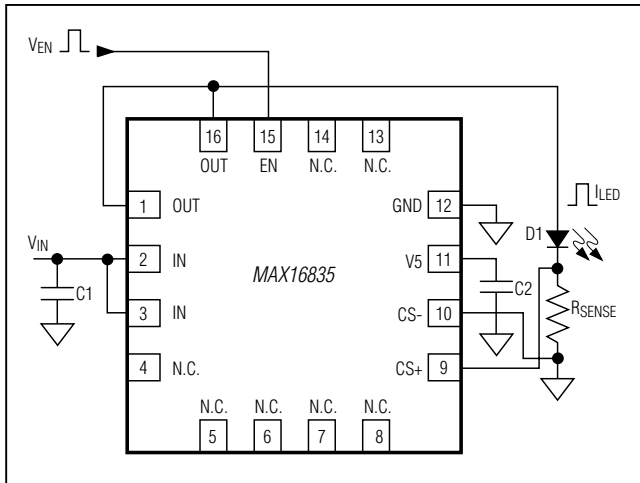

Figure 1. Pulse Application with V_{IN} at a Constant Voltage
The MAX16835 provides pulsed or chopped current dimming. Generally, HB LEDs are binned to match at their full-rated current; however, LEDs from the same bin exhibit poor matching at currents other than full-rated current. To achieve uniformity, HB LED manufacturers recommend PWM pulsing of the LED current at their full-rated value. There are two methods for producing a PWM output. One method is by pulsing the enable input (EN) while having a constant voltage at V_{IN} . The other method is to connect EN to V_{IN} and pulse both EN and V_{IN} . Both methods generate a regulated-amplitude PWM current (variable duty cycle) that can provide control over the LED brightness (see Figures 1 and 2).